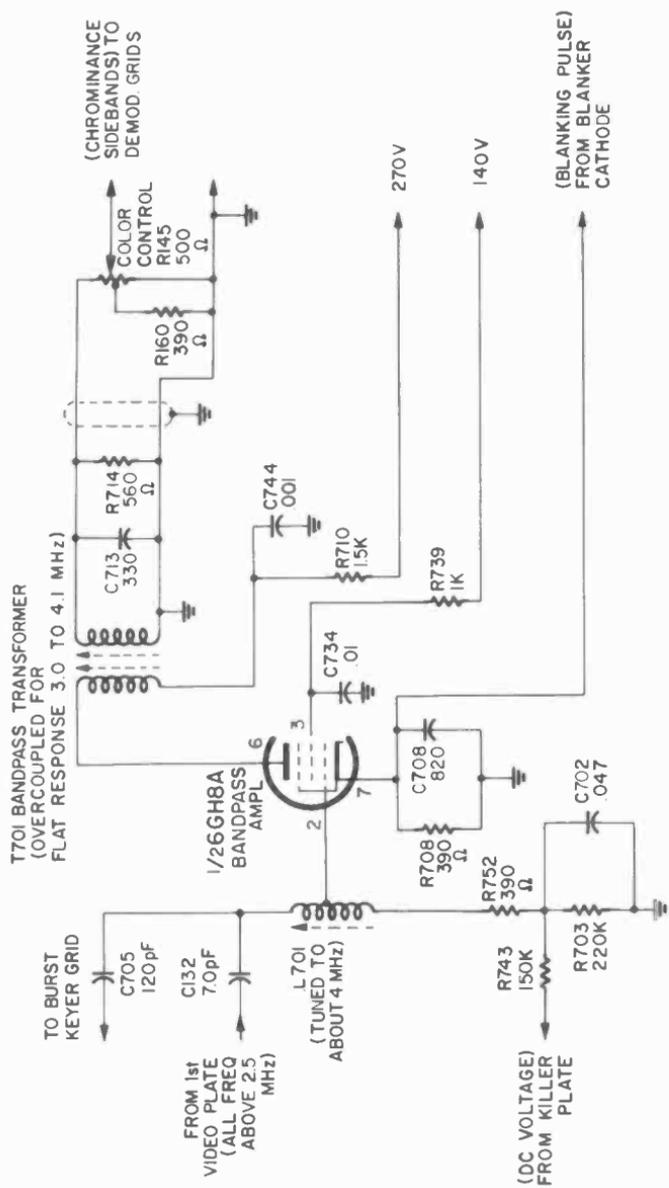

Fig. 401—Chroma bandpass amplifier of RCA CTC16X color chassis.
Let's take the chroma circuit of the RCA CTC16X, since it is typical of many modern receivers, and study it in detail. Fig. 401 shows the complete diagram of the chroma i.f. amplifier, sometimes called the chroma bandpass. It's just a simple one-tube tuned-pentode amplifier and should be easy to understand, troubleshoot and repair. Yet, do you recall the day Joe Bloe called you for advice, saying . . . "I don't have any color at all. Is it the picture i.f.'s or the 3.58 oscillator, or where do I look?" His voice was unusually serious, as though income-
2. To reduce the possibility of opens in sockets or board wiring, measure the resistance from connecting points of the circuit rather than across the suspected part itself. For example: In Fig. 401, measure from the grid pin of a test socket inserted in the 6GH8 socket to ground. If the reading is about 220K, you have proved the continuity of the socket, L701, R752 and R703 in one easy test. An ohmmeter test is the best one to use on a grid return